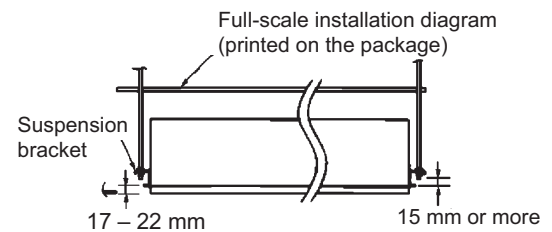
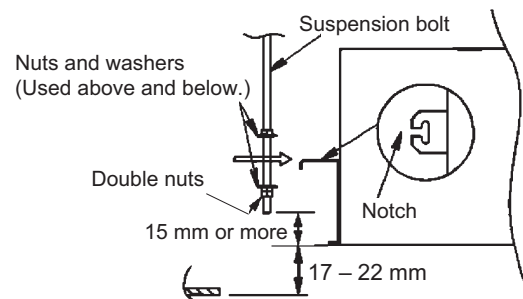

Fig. 2-130
Fig. 2-131
The length of the suspension bolts should extend a minimum of 15 mm beyond the bottom of the unit suspension bracket. Refer to Fig. 2-130.
- (1) When suspending the unit, attach gauges A and B (with packaging pad) to the indoor unit suspension brackets using the supplied M5 screws (2 for each bracket) to create the ceiling opening dimensions.
- (2) Attach the special washers (supplied) and nuts (field supply) to the suspension bolts (4 locations).
- The length of the suspension bolts should be such that there is clearance of at least 15 mm below the bottom of the bracket, as shown in Fig. 2-131. If the suspension bolts are too long, they will contact the ceiling panel and louver motor cover, making installation impossible.
- (3) Thread the 3 hexagonal nuts and 2 washers (field supply) onto each of the the 4 suspension bolts as shown in Fig. 2-131. Use 1 nut and 1 washer for the upper side, and 2 nuts and 1 washer for the lower side, so that the unit will not fall off the suspension lugs.
- (4) The indoor unit should be suspended from the suspension bolts (Fig. 2-131) so that the distance between the bottom of the suspension lug and the bottom surface of the ceiling is 17 to 22 mm. (Fig. 2-130) Clearance between the indoor unit and the bottom surface of the ceiling is adjustable after the ceiling panel is attached to the unit.